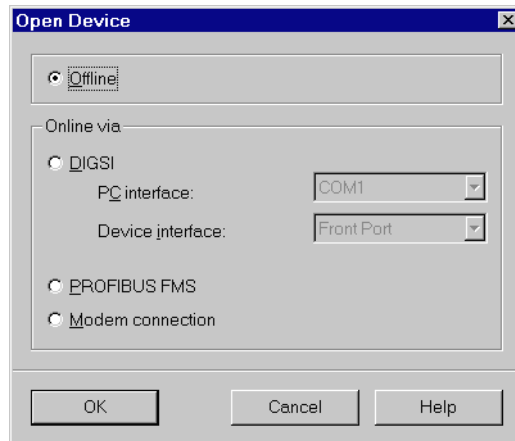

Figure 9-4 DIGSI® 4, dialog field Open Device
- Doubleclick on this item. The **Open Device** dialog box opens, see Figure 9-4.